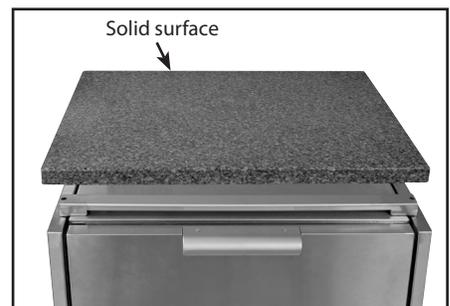

Fig. 10
1. Locate holes on the solid surface and place onto the refrigerated unit so the holes align on the sides. Check for proper fit and alignment. Insert screws (10-24 X 1-1/8 PH SS) to anchor solid surface to risers (Fig. 09). See Fig. 10 for final assembly.